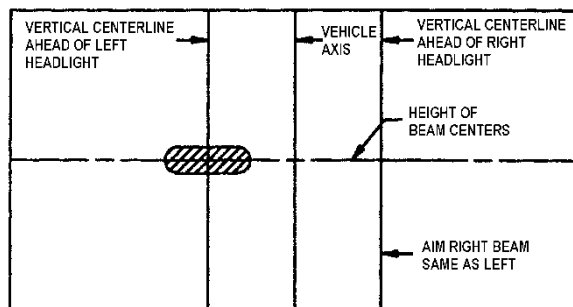

FIGURE 79: UPPER BEAM HIGH-INTENSITY ZONE PROPER LOCATION ON SCREEN
4. High beam headlamps are aimed so that the center of the high-intensity zone is located at the horizontal and straight ahead vertically (Figure 79).